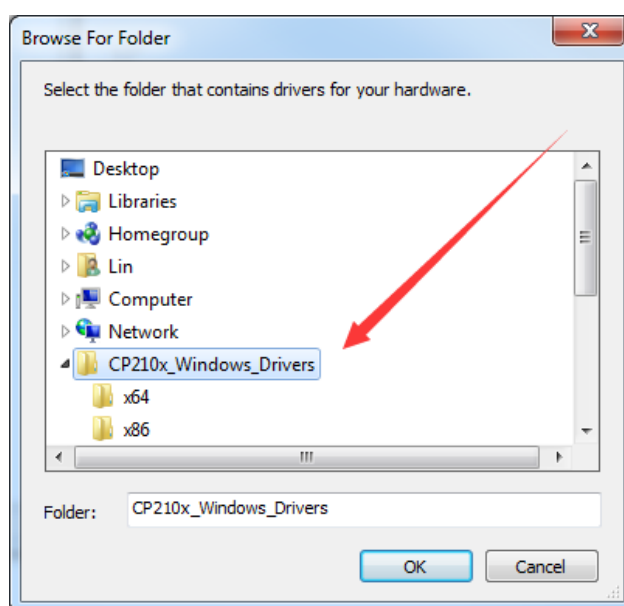

Fig.3.6 . USB driver installation-2
- 2) Right-clicking on the device to choose the menu of driver installation, and on the pop out window please select the folder where the driver is placed, for example the folder of " CP210x_Windows_Drivers " as showed in Fig. 3.6.